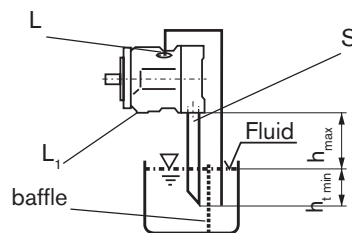

fig. 4
Pipe port "L" and "S" acc.to.fig. 4, port "L₁" closed. (compare limiting conditions)
a) When mounting above the reservoir: see fig. 4 (compare item limiting conditions)